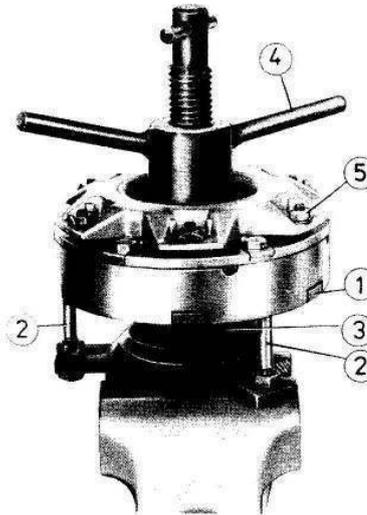
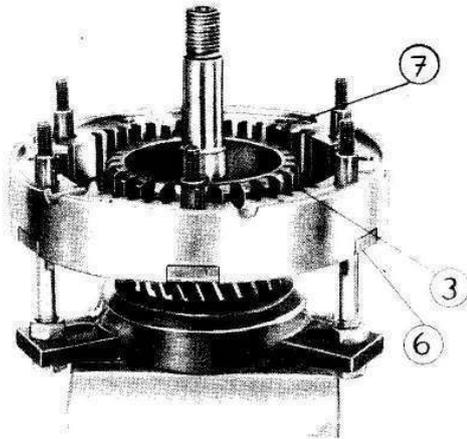
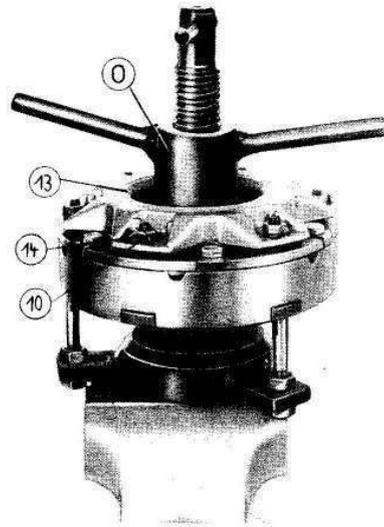
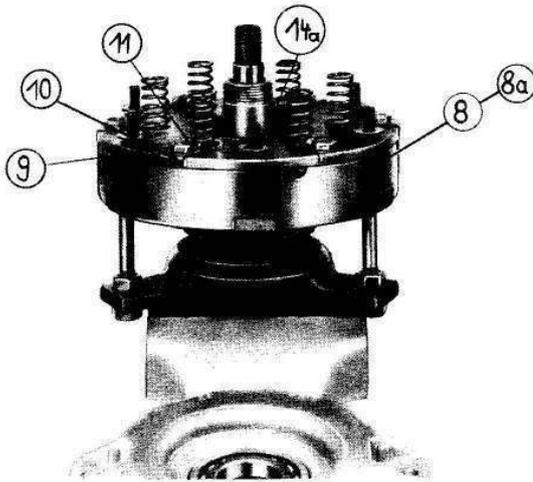

Fig. 18. Dismantling the clutch
Fig. 19. Assembling the clutch - 1st phase
Fig. 20. Clutch - screwing the pressure flange in place
Fig. 19a. Assembling the clutch - 2nd phase
The assembly device 05-MW 150-2 (Fig. 18) enables the dismantling and assembling of the clutch. To facilitate work, it is clamped in a vice. Fig. 20 shows the mounting position.
For dismantling or checking the clutch, it must be so positioned that the pressure plate (1) is not put on the propping screws (2) (Fig. 18).
Sequence of clutch assembling (Figs. 19, 19a, 20, 21)
- Put internal driver with drive gear (3) on the assembling device (Fig. 19);
- Place the pressure plate with spacer bolt (6) on the supporting screws of the assembling device (Fig. 19);
- Put the gear ring (7) in place (Fig. 19);
- Alternately fit internal segments (8) and external segments (8a) (the parcel of segments is centred by the internal driver);
- Mount the clutch body (9), screw in the hexagon-head screws (11) with lock plates (10) and lock them (Fig. 19a);
- Place the spacer washers 00-18.196 (14a) on the spacer bolts (Fig. 19a);
- Put the compression springs (12) on the clutch body (9);
- Mount the pressure flange (13) and tension it with the upper part of the clutch assembling device. Adding the lock plates (10), fasten the pressure flange by means of the nuts (14) and lock them (Fig. 20).
The lock nut (4) of the assembling device (Fig. 18) is tightened by turning clockwise, it must be possible to turn the internal driver (3) with drive gear. The same test can be performed with the upper part of the O5-MV 150-2 assembling device with the clutch mounted in the engine.